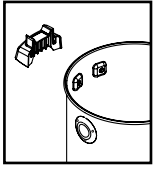

FIGURE 13
16. Remove any webbing that attaches the tank handles to each other. Take the side tank handle with the letter L and position it on the outside of the tank where the support assemblies are installed. Secure the handle to the tank with the screws in the support assemblies. **FIGURE 13.**